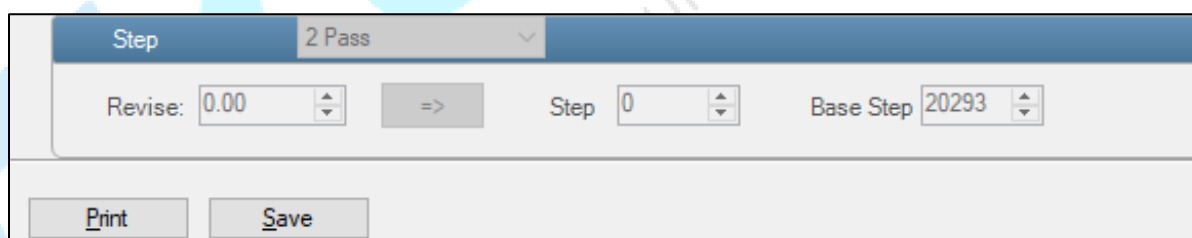

Fig 49: Displaying the Step Calibration Parameters
Step 1: Select the desired pass from the list and click on the **Print** button (Refer to Fig 49).
Step 2: Feed the correction value in the **Revise** field (the correction value up to two decimal places) (Refer to Fig 49).
Step 3: Click on the => icon (Refer to Fig 49) on the Step Calibration window. The correction value result will be reflected in the **Step** field (Refer to Fig 49). The same step value will also be displayed in the **Steps** field on the **Quick Access Toolbar**.